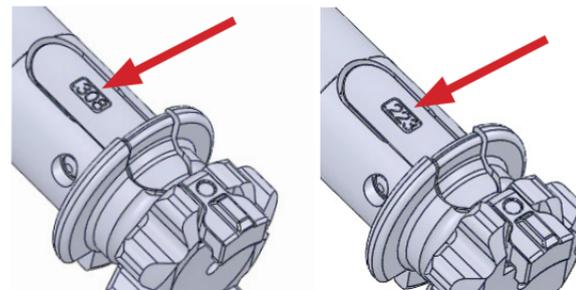

Fig. a-5
- Ensure the bolt head matches the chambering of the barrel. (Fig. a-5)